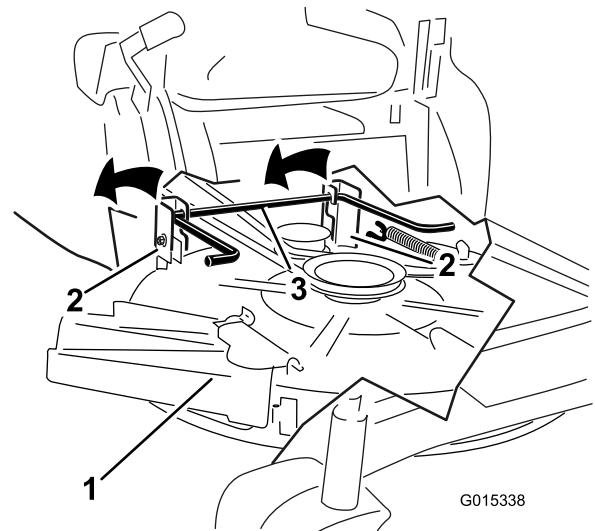

Figure 54
5. Lift the mower deck and hanger brackets clear of the rear lift rod, and lower the mower carefully to the ground (Figure 54).
5. Lift the rear of the mower deck and guide the hanger brackets over the rear lift rod (Figure 54).